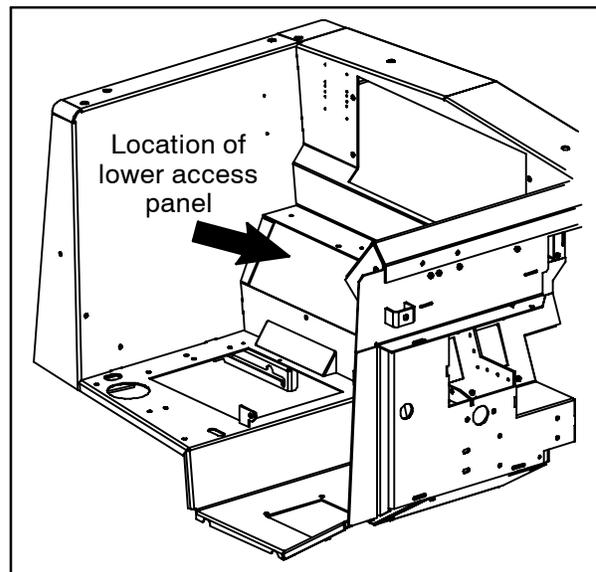

FIG. 1
3. Remove the lower access panel from the operator compartment. Set the panel and hardware aside. Refer to Fig. 1.